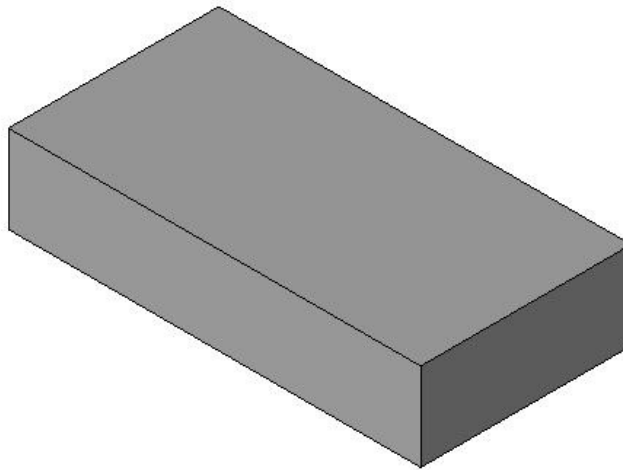

Figure 26. The completed VAV Box body.
38. Navigate to the **View 1** 3D view and set the *Model Graphics Style* to *Shaded with Edges* so that your screen looks similar to Figure 26.